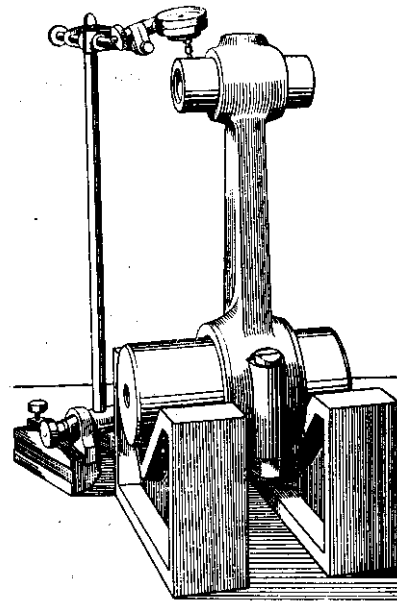

Fig. 2
- ii. Assemble connecting rod, dummy shaft and gudgeon pin in manner indicated in Fig. 2.
- iv. Whilst connecting rod is in the vertical position (Fig. 2) take readings on either side of the gudgeon pin, when subject to any discrepancy referred to in iii the readings should be exactly the same.